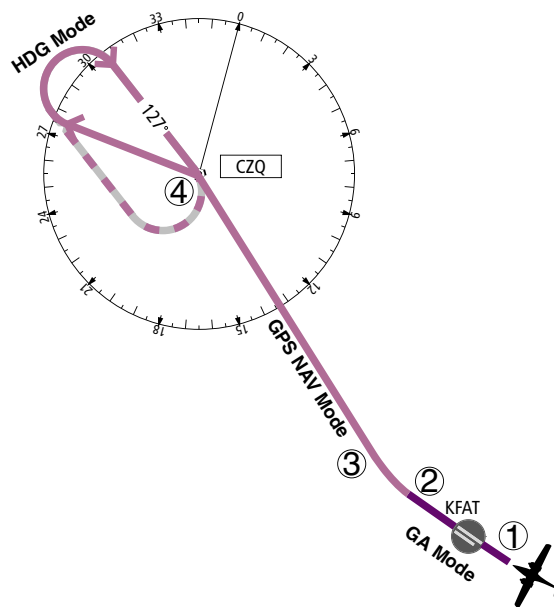

Figure 6-26 Go Around / Missed Approach
- d) Select the **SUSP** Softkey to resume sequencing approach legs to the Missed Approach Hold Point (MAHP). The autopilot flies direct to Clovis VORTAC according to the loaded approach (see Figure 6-26).